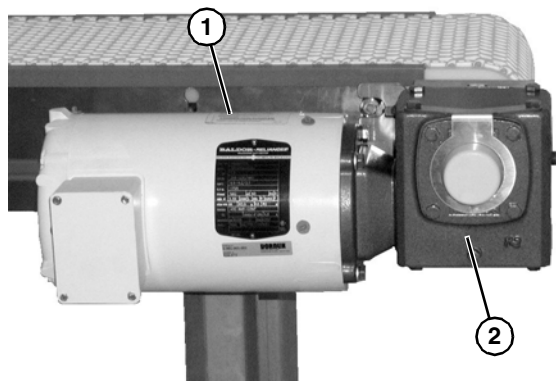

Figure 42
1. Attach the motor (**Figure 42, item 1**) to the gear reducer (**Figure 42, item 2**).